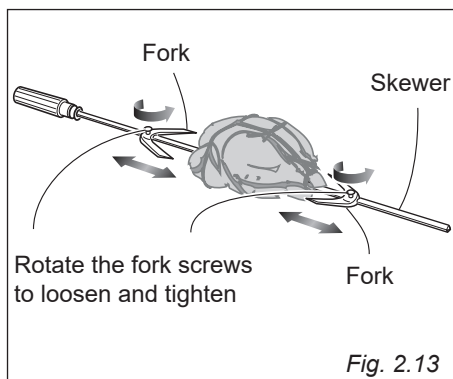

Fig. 2.13
2. Secure the meat (fig. 2.13).